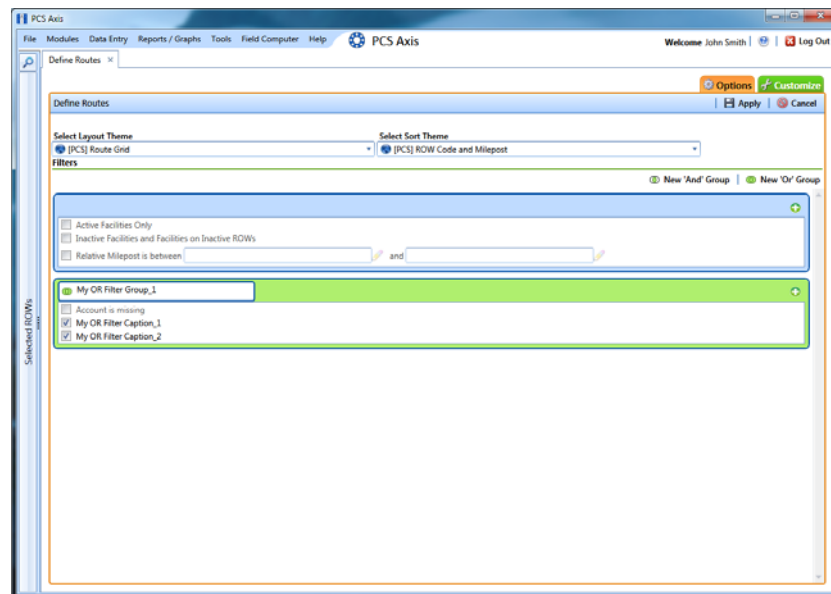

Figure 7-53. Options
- 12** To apply one or more filters to the selected route and the *Define Routes* grid (Figure 7-53):